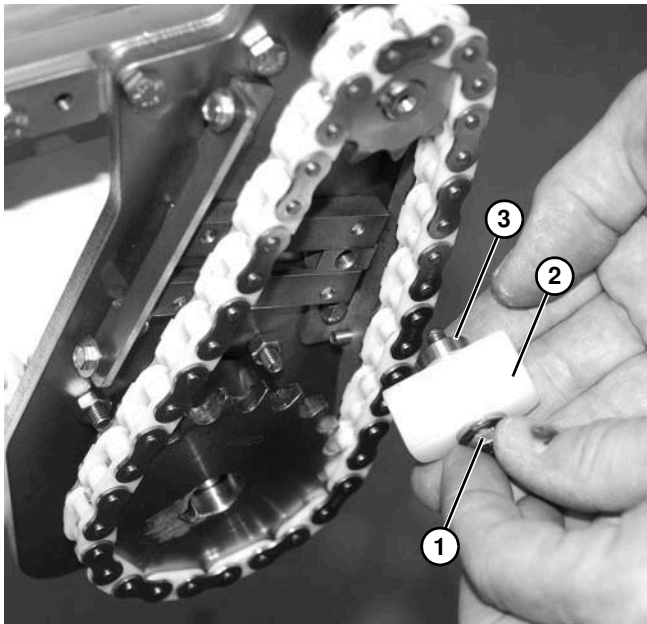

Figure 51
4. Remove screw and washer (Figure 51, item 1), timing chain tensioner (Figure 51, item 2), and spacer (Figure 51, item 3) from drive mounting bracket.